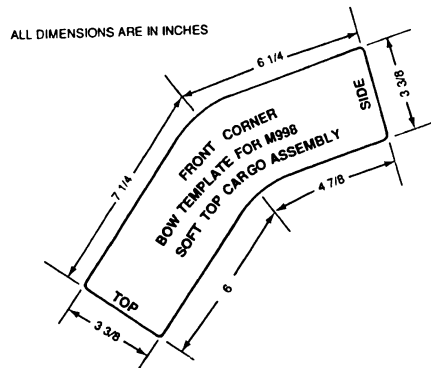

FIGURE 8-1
- A. STRAP A (2 ea.) - Approximately 3" wide x 12" long, fashioned to fit around the corners of the soft top enclosure. (see figure 8-1)